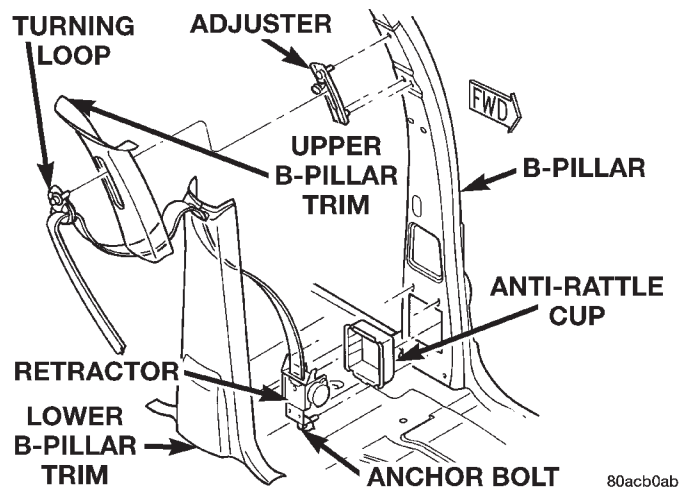
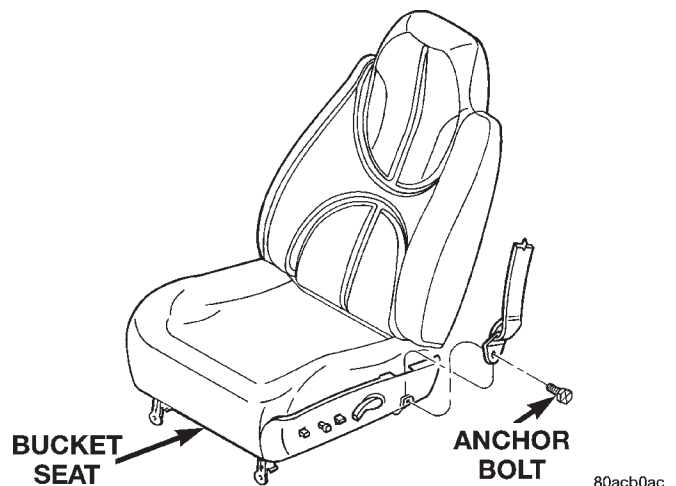

Fig. 88 Front Seat Belt Retractor
Fig. 89 Front Seat Belt Anchor
- (1) Detach the turning loop cover from the upper anchor bolt.
- (2) Remove upper anchor bolt (Fig. 88).
- (3) Remove B-pillar trim.
- (4) Remove the retractor anchor bolt.
- (5) Disconnect retractor wire harness connector.
- (6) Remove front seat side shield.
- (7) Remove front seat belt anchor bolt (Fig. 89).
- (8) Separate retractor from vehicle.
- (1) Position retractor in the vehicle.
- (2) Install retractor anchor bolt. Tighten to 38 N·m (28 ft. lbs.) torque.
- (3) Connect retractor wire harness connector.
- (4) Install B-pillar trim.
- (5) Install upper anchor bolt. Tighten to 38 N·m (28 ft. lbs.) torque.
- (6) Install front seat belt anchor bolt (Fig. 89). Tighten to 38 N·m (28 ft. lbs.) torque.
- (7) Install front seat side shield.